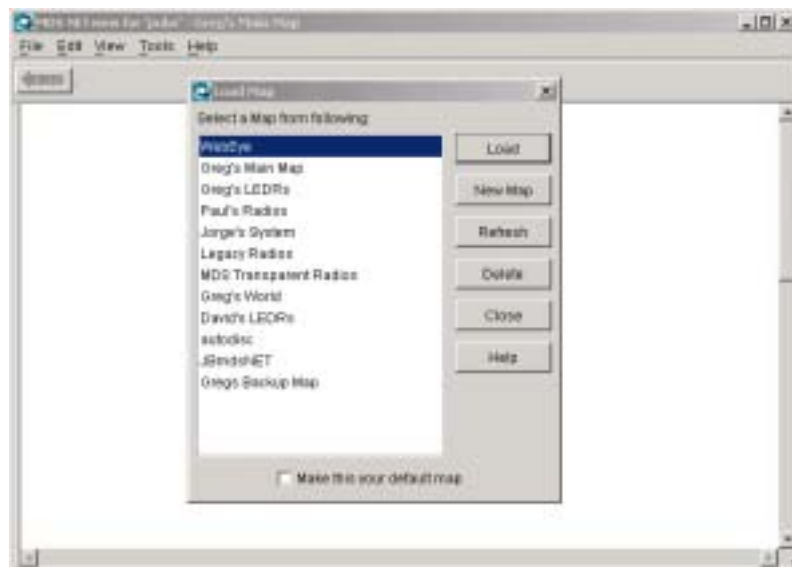

Figure 37. Load Map Screen
- a. Select **File>>Load** from the top menu bar. The **Load Map** screen appears with a list of available maps (Figure 37).